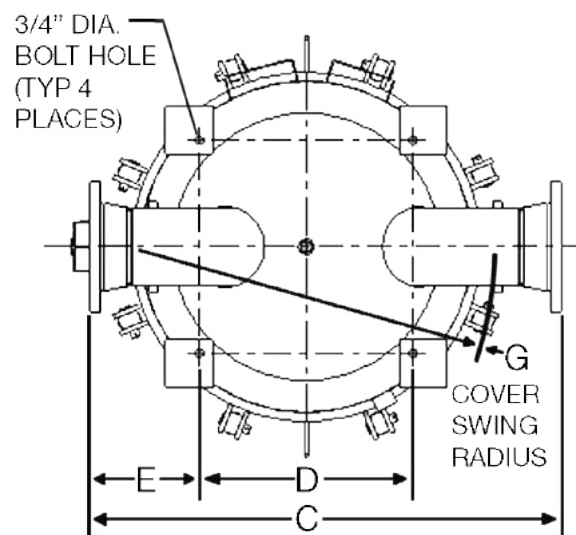

Figure 2
- Element qty required: DVF42 (27), DVF48 (33)
- Customer must supply the length for Dimension B referenced in Figure 2 on page 78.